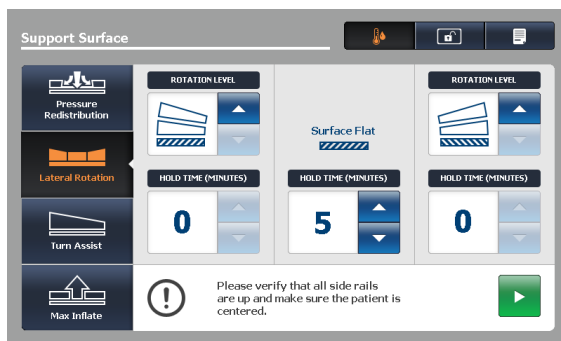

Figure 51: Lateral rotation screen
2. Adjust the Lateral Rotation selections as needed (Figure 51 on page 67):